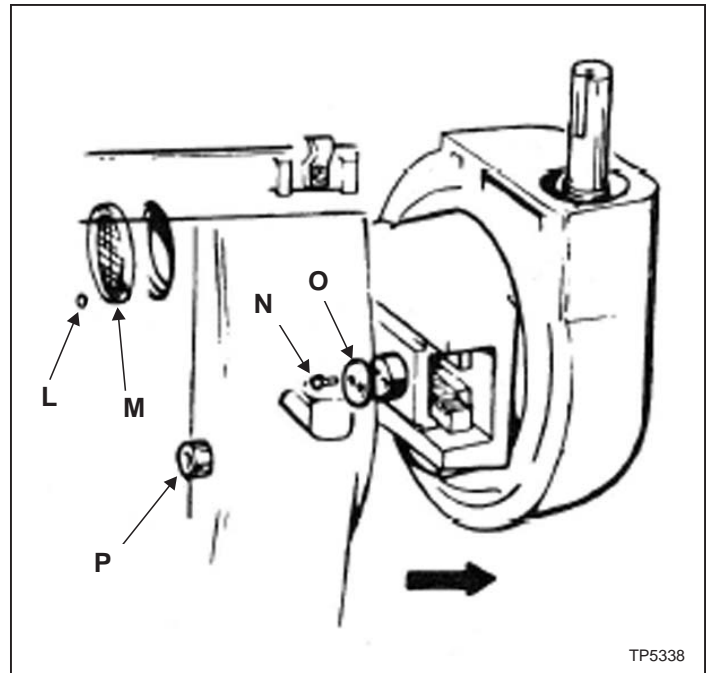

Figure 3.19 - E-Head Reduction Drive Unit Removal
2. Remove vee belt pulley "K", Figure 3.19.
3. Remove two screws "L", Figure 3.19, from air vent cover "M" and bring the top end of the connecting rod into view.